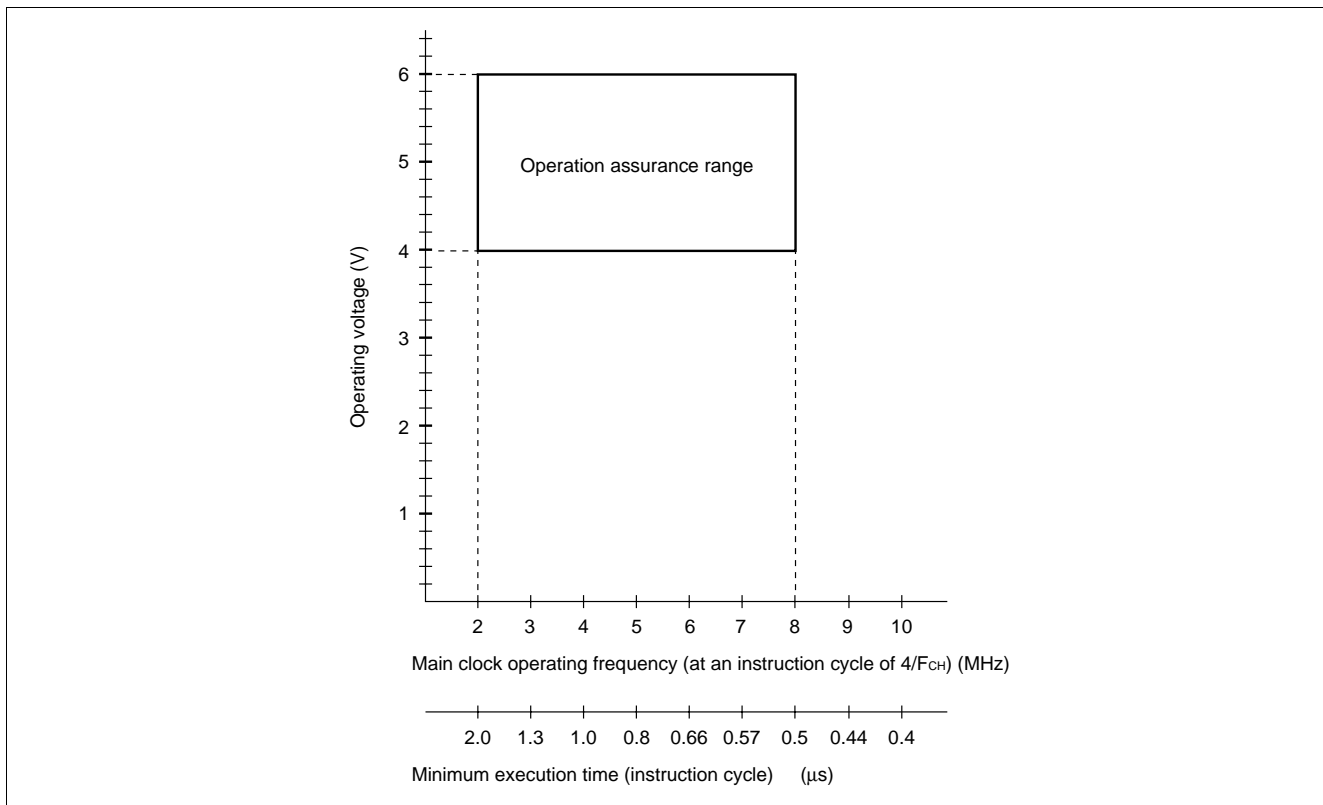

Figure 1 Operating Voltage vs. Main Clock Operating Frequency
* : These values vary with the operating frequency, instruction cycle, and analog assurance range. See Figure 1 and "5. A/D Converter Electrical Characteristics."
Figure 1 indicates the operating frequency of the external oscillator at an instruction cycle of $4/F_{CH}$.